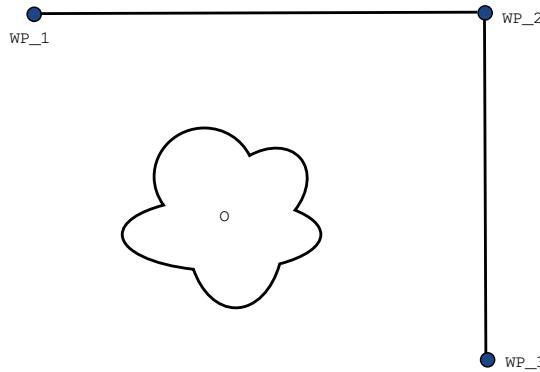

Figure 16.2: WP\_1: initial position, WP\_2: via point, WP\_3: pick up position, O: obstacle.
**Example** Consider a pick and place application as an example (see figure 16.2), where the robot is currently at Waypoint 1 (WP\_1), and it needs to pick up an object at Waypoint 3 (WP\_3). To avoid collisions with the object and other obstacles (O), the robot must approach WP\_3 in the direction coming from Waypoint 2 (WP\_2). So three waypoints are introduced to create a path that fulfills the requirements.